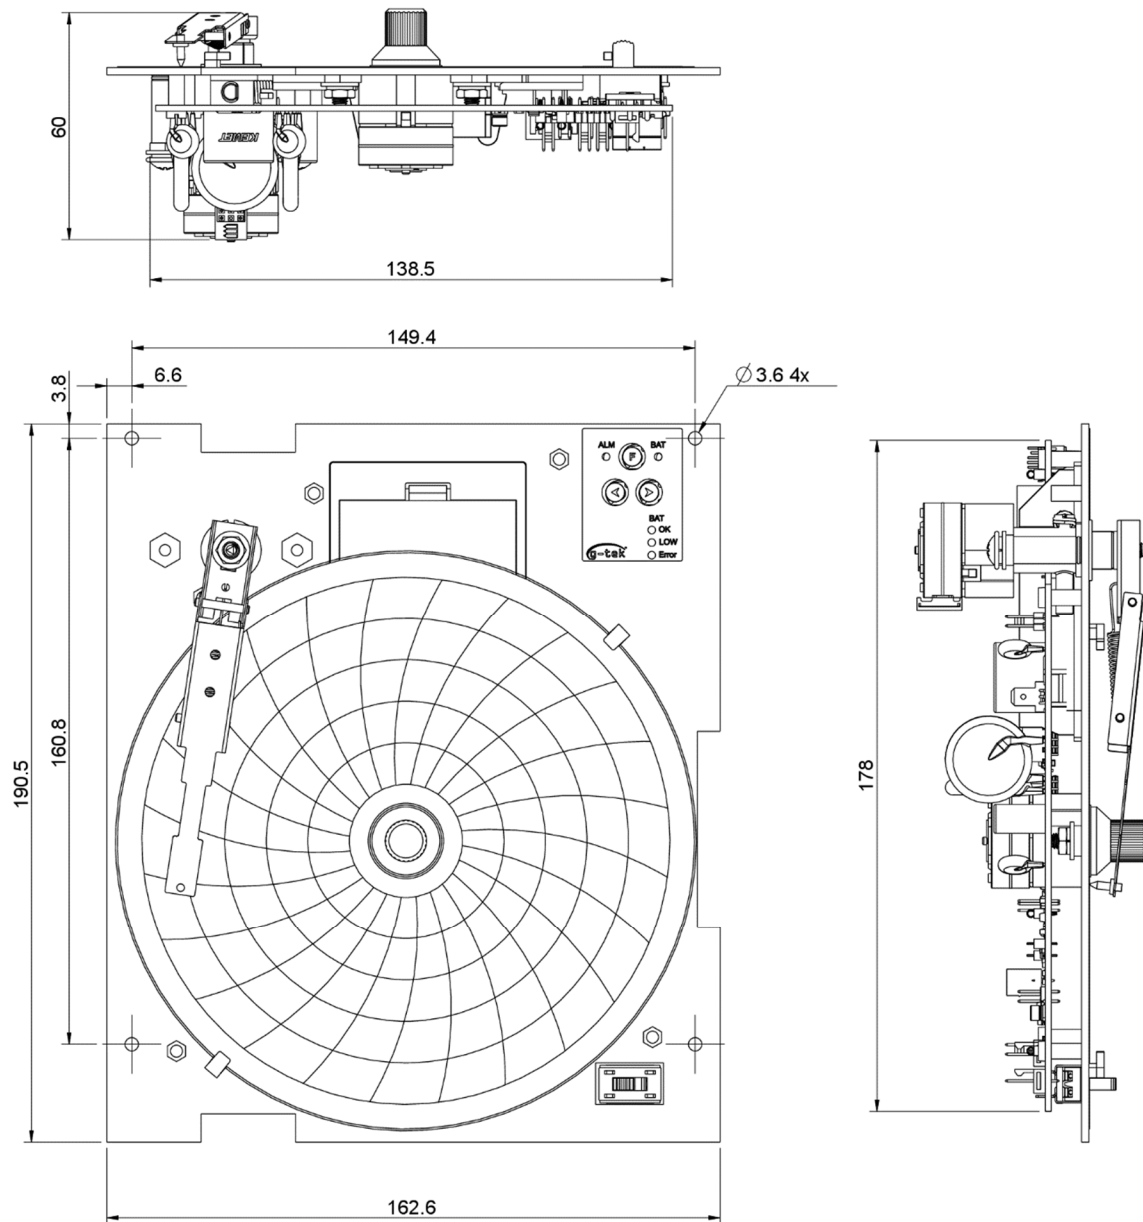
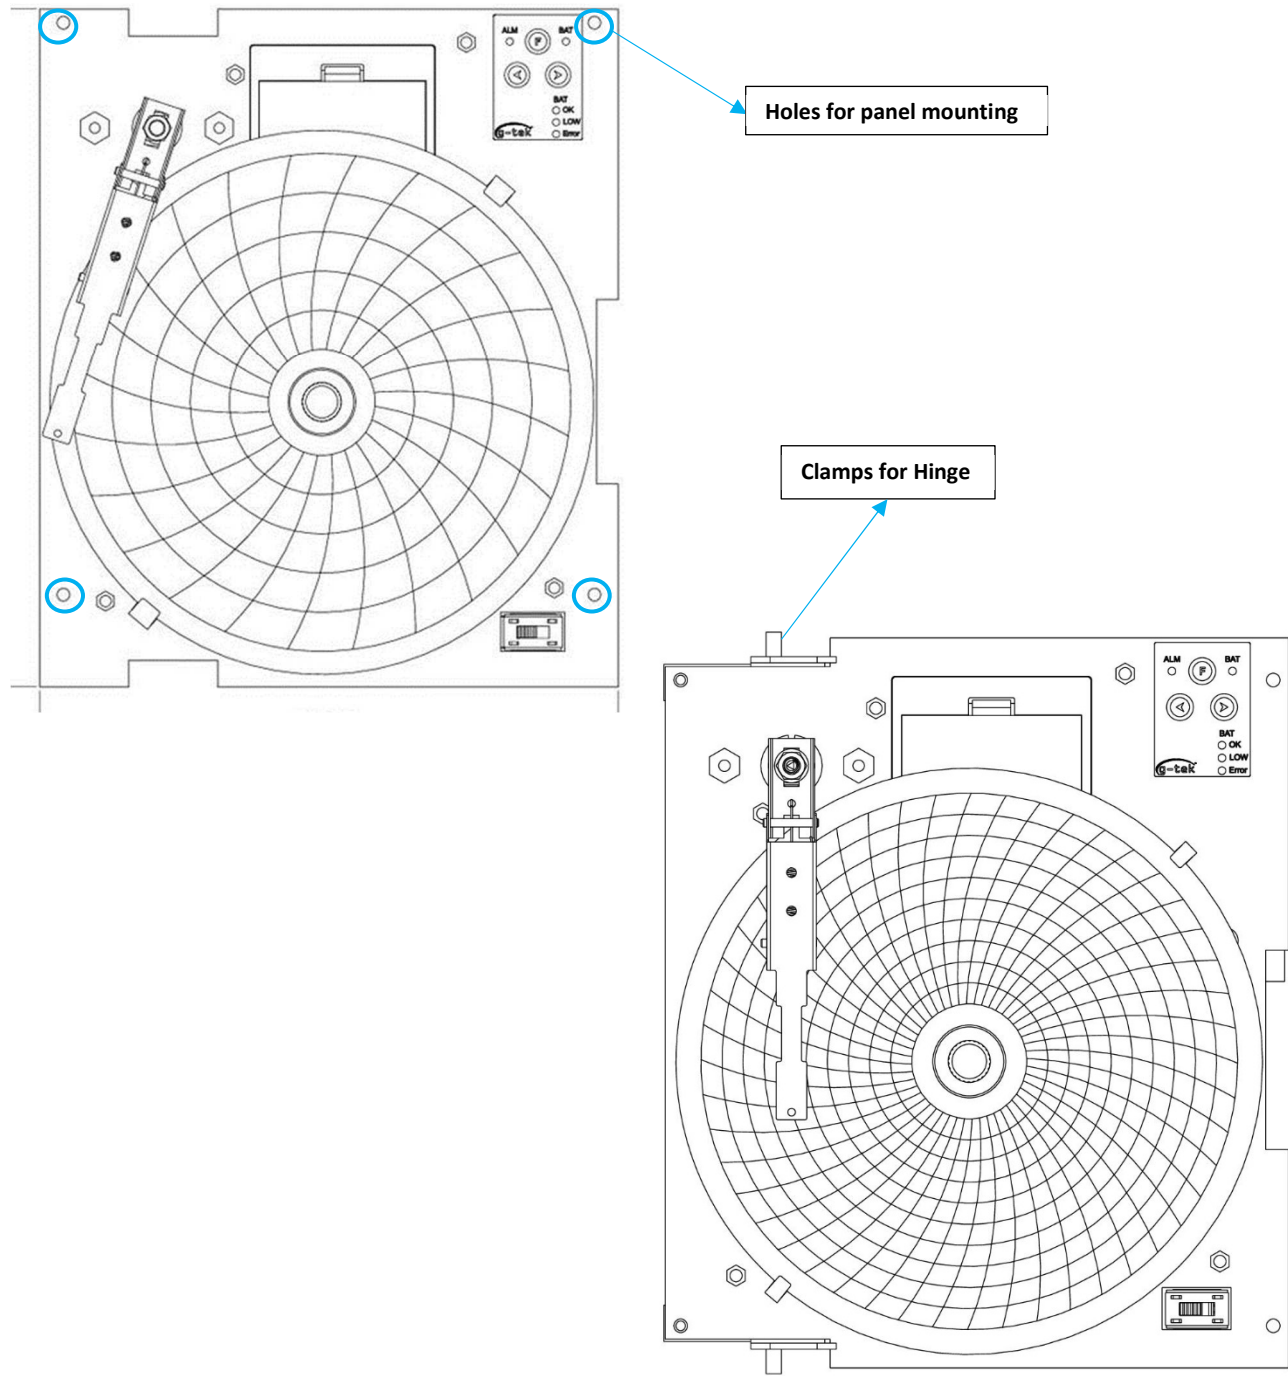

Figure 4 - Overall Mechanical Dimensions of Chart recorder without Clamps
Figure 6 - For Panel Mounting of the recorder
1. The figure 4 shows the overall dimensions of the Chart recorder with mounting detail dimensions
Note: All the dimensions shown in the figure 4, 5 are in mm.
The chart recorder can be panel-mounted by either screwing the chart plate at its four corners or using the clamp with hinge option, as shown in figure 6. The dimensions for the mounting screws and hinge, relative to the chart plate, are provided in figures 4 and 5 in the previous section.